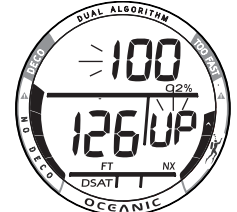

Fig. 43 - O2 ALARM
If O2 reaches the Alarm level; the O2 value (100) will flash (in place of DTR or Deco Stop Time) and the graphic UP will flash (Fig. 43) until on the surface.